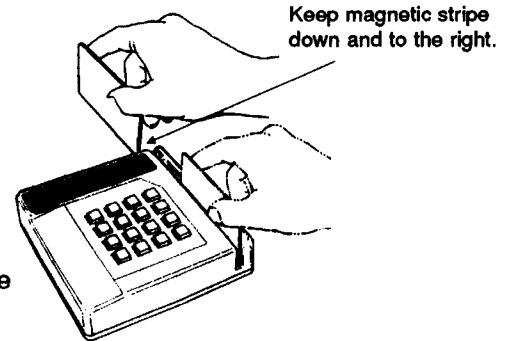

Figure 5-1 Cardreader Operation
2. Insert the credit or debit card into the rear of the card reader slot with the magnetic stripe facing down and to the right of the terminal. (See Figure 5-1.)